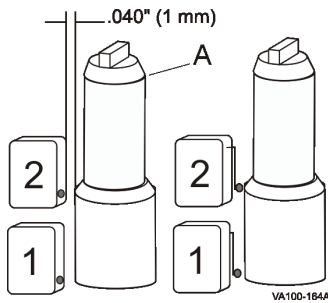

Figure 25: Valve Open Adjustment
3. With the stem raised, adjust the vertical height of the upper switch target to slightly below the stem shoulder (Figure 25). Tighten the cap screws securely.